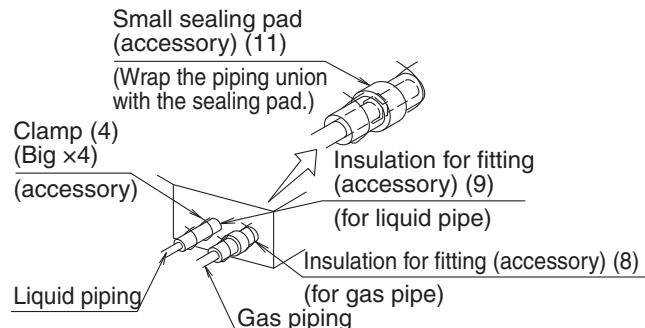

Fig. 16
- Make absolutely sure to execute thermal insulation works on the pipe-connecting section after checking gas leakage by thoroughly studying the following figure and using the attached thermal insulating materials for fitting (8) and (9). Fasten both ends with the clamps (4). (Refer to Fig. 16)
- Wrap the sealing pad (11) only around the insulation for the joints on the gas piping side. (Refer to Fig. 16)